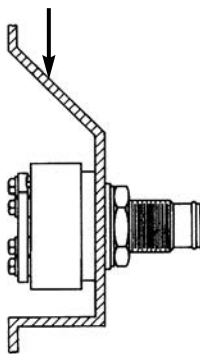

FIG. 8 Side Mounted Recess.
- 1.6.2 When recessing the unit into the side of the hull for generator sets and/or equipment operating at dockside, angle the top of the recess box to allow convection current over the cooler. See Figure 8.